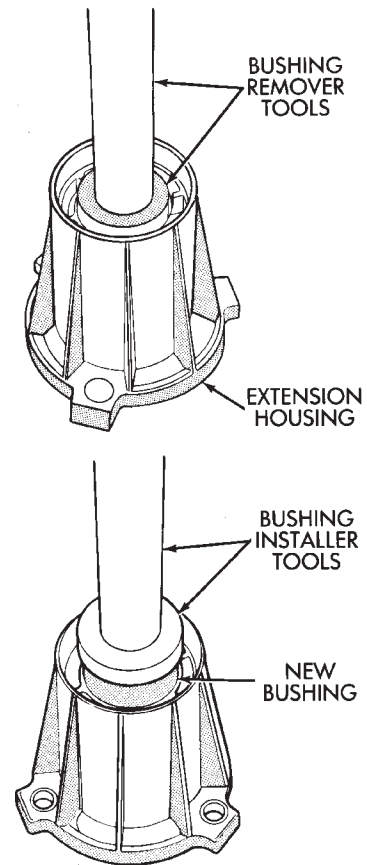

Fig. 83 Replacing Extension Housing Bushing
(69) Remove extension housing seal if not removed previously.
(70) Replace extension housing bushing with driver tools (Fig. 83).